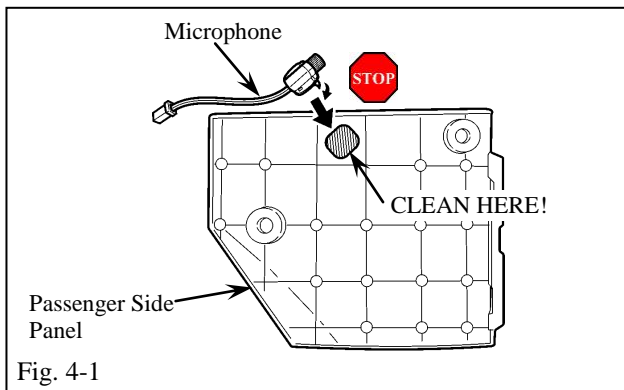

Fig. 4-1
- (a) Using the 3M™ Prep Solvent-70, clean the area indicated on the backside of the passenger side panel. (Fig. 4-1)
(1) When cleaning with 3M™ Prep Solvent-70, follow the manufacturer's directions. Do not allow cleaner to air dry.
- (b) Remove the backing sheet and secure the microphone to the backside of the passenger side panel. (Fig. 4-1)
(1) Secure the microphone as shown.
(2) Do not touch the adhesive surface of the microphone.
(3) Press the microphone to the passenger side panel firmly.